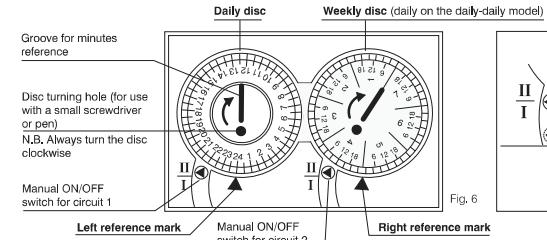

Fig. 6
- Turn the **left hand (daily) disc clockwise until its reference mark** (triangle) points to 24 (00) hours.
- Turn the **right hand (weekly) disc until its reference mark** (triangle) points to the 24 (00) hour mark of the correct day (1 = Monday, 2 = Tuesday etc.). The two discs are now synchronised.
(note: Fig. 6 shows the right hand disc set at 24 (00) hours on day 5 = Friday only by way of example).